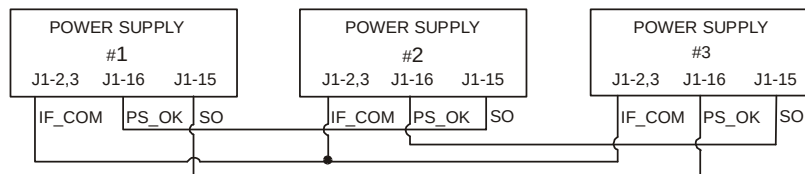

Fig. 5-6: Daisy-Chain Connection
5.15.1.3. Daisy Chain Connection: (See Fig. 5-6)
- f) Connect J1-2 (or J1-3) common to all supplies (See Fig. 5-6).
- f) Switch SW1 position 5 should be in its down position for all power supplies (See Fig. 5.6).
- k) Connect J1-2 (or J1-3) common to all supplies (See fig. 5.6).
Fig.5-6 shows connection of three units, however the same connection method applies to systems with a larger number of units.